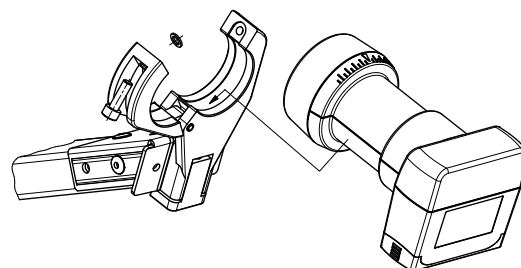

Fig. 1
1. Clamp the feed system between the bottom and the top part of the feed system mounting and tighten it loosely by means of the screw (Abb. 1).